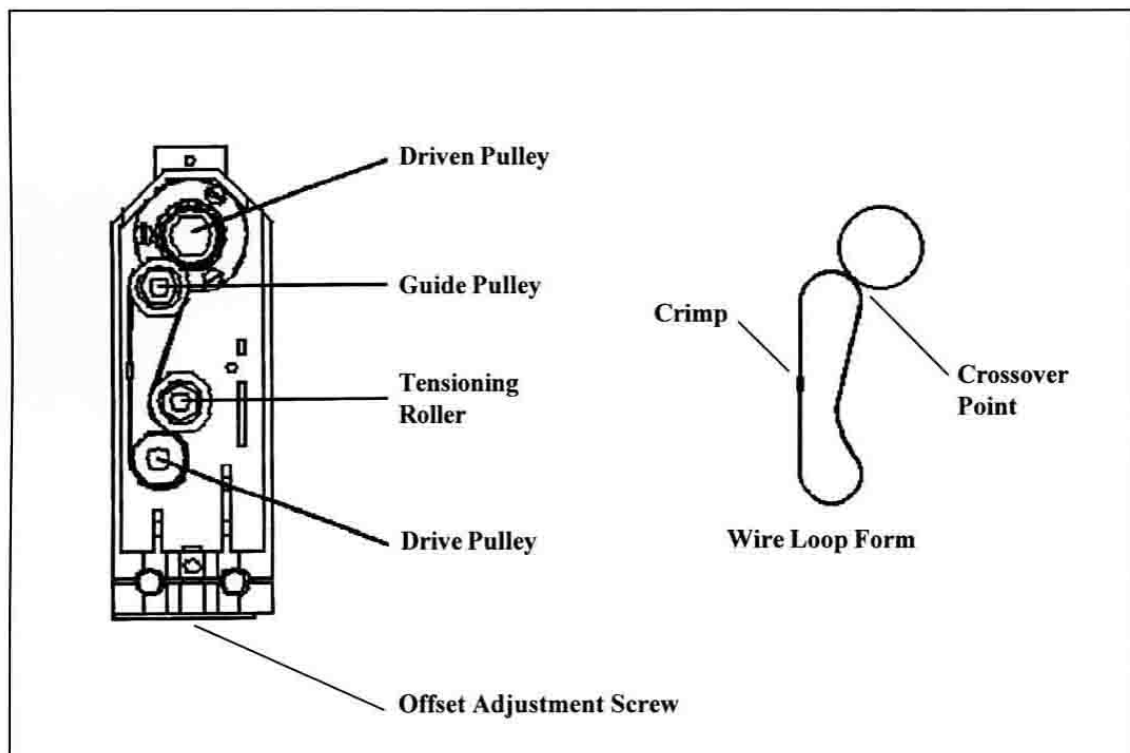

Figure B3. Replacement of the Drive Wire.
To adjust the angular position of the SH2 specimen plate, slacken the tensioning roller locknut (see figure B3). Rotate the sample plate to the desired datum position. Tension the wire so that the secondary drive functions correctly. Retighten the tensioning roller locknut.
Should it become necessary, the drive wire can be replaced as follows (refer to figure B3, and to section B2.4.2 above):
- 3) Fit the new drive wire belt (Part Code ZSHWDB) to the drive pulleys as shown in figure B3. Ensure that the wire is routed around the pulleys as shown in this figure.